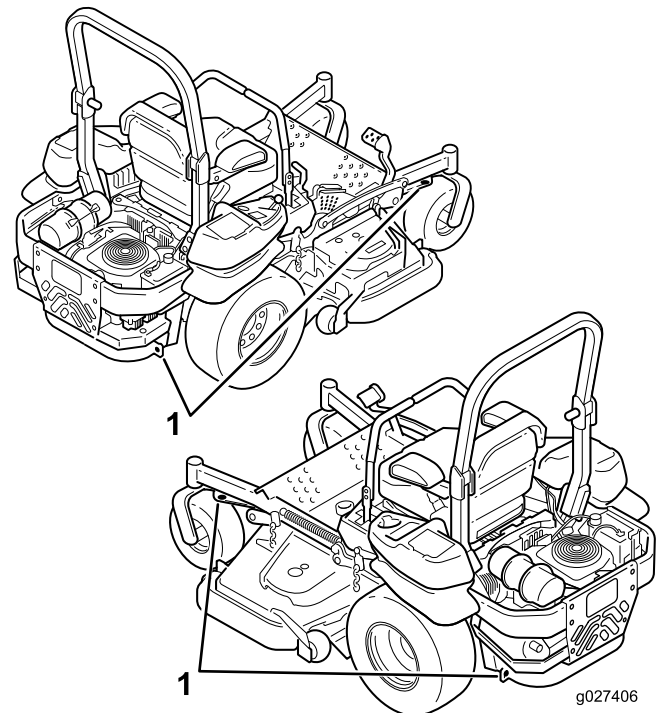

Figure 33
5. Use the tie-down loops on the machine to securely fasten it to the trailer or truck with straps, chains, cable, or ropes (Figure 33).